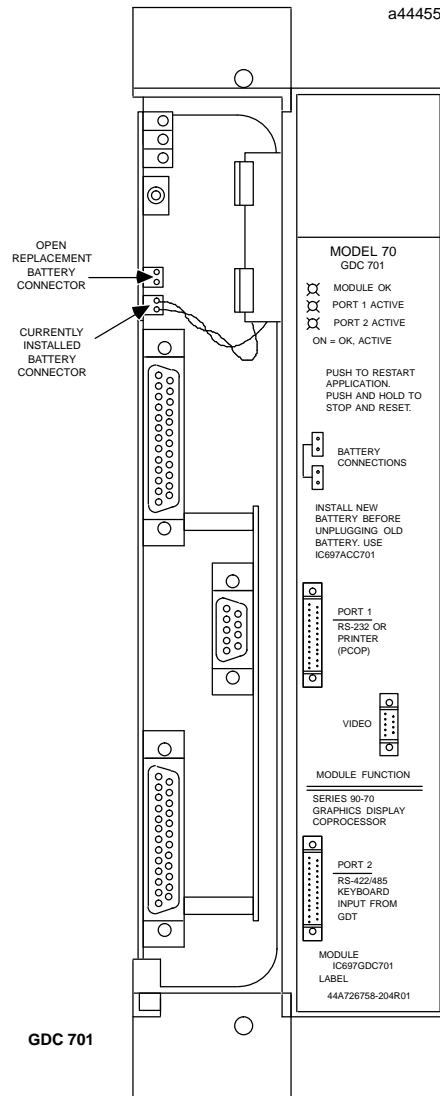

Figure 2. Graphics Display Coprocessor Module - User Details
- Connect the battery to either of the battery connectors on the module (See figure 2).
Three Status LEDs are available as shown in figure 2. The top LED indicates the condition of the GDC module, the bottom two LEDs indicate serial port and backplane activity.
A lithium battery (IC697ACC701) is installed as shown in figure 2. This battery maintains user memory when power is removed. Be sure to install the new battery in the unused battery connector before removing and discarding the old battery. If during power-up diagnostics a low battery is detected, the Module OK LED (top) will not stay on.